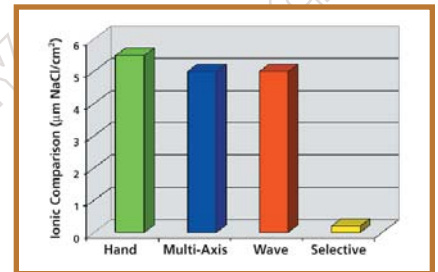

FIGURE 4: ... and cut ionic contamination.
- Reduced ionic contamination and flux consumption (**Figure 4**).